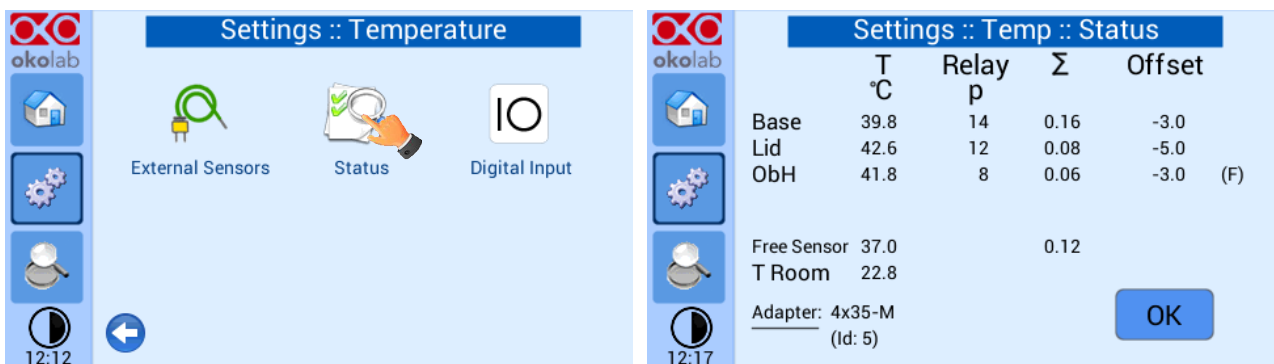

Figure 37. Status page
5. Wait until the system reaches the steady state (temperature indicator status is green) then approach the oil immersion objective to the bottom of the Petri dish. The Fine Gauge Thermocouple will detect a decrease in temperature because of the contact with the cold lens. You can see the Fine Gauge Thermocouple temperature decreasing in the Status page (see paragraph Figure 37) whether you are working in “Chamber Feedback Mode” or in “Sample Feedback Mode